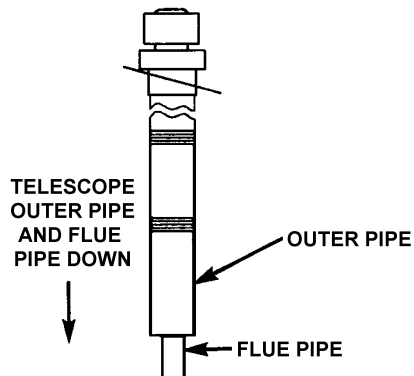

FIGURE 14.
3. Telescope down the outer pipe of the roof jack assembly to a length that will project at least 2" below the finished ceiling before installing the roof jack assembly, see Figure 14.